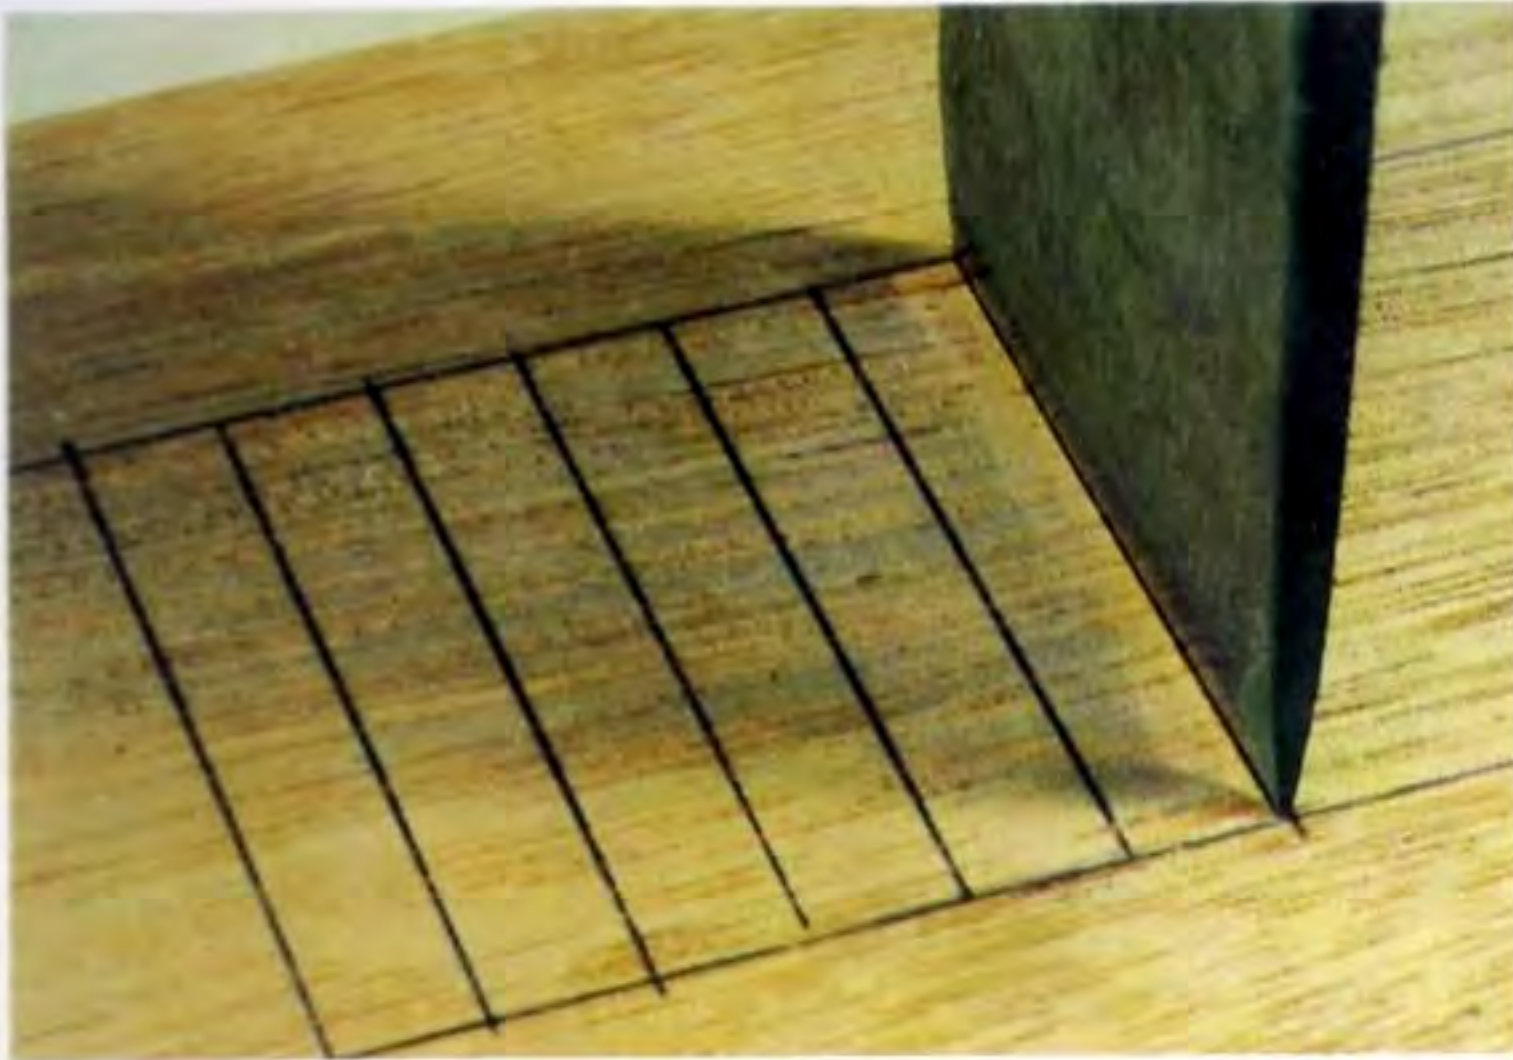

Fig 5.7 Stabbing accurately to a line.
- 3 Place the edge of the chisel accurately on the first line, strike, and remove the tool, as before. Work along the row of vertical lines in this way (see Fig 5.7).